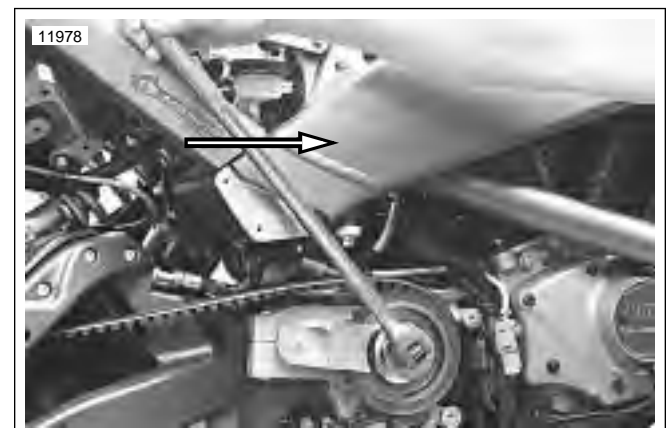

Figure 6-102. Removing Transmission Sprocket Locknut
9. Place transmission in neutral. See Figure 6-102. Install the P3/Blast SPROCKET HOLDING TOOL to hold the sprocket.
10. Remove transmission sprocket nut (3) from main drive gear (5) using MAINSHAFT LOCKNUT WRENCH (Part No. HD-94660-37B or HD-46288) and a breaker bar.
11. Remove secondary drive belt from transmission sprocket. Remove transmission sprocket (4) from main drive gear (5).